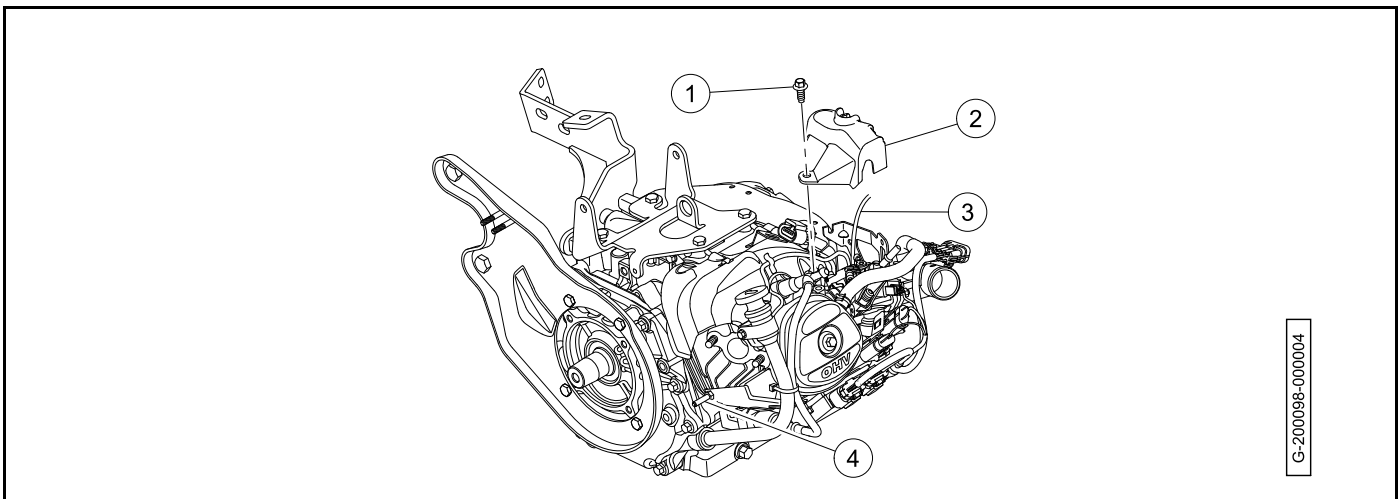

Figure 21-1 Governor Cover and Ground Cable Removal
6. Remove the screw (1) (**Figure 21-1, Page 21-2**)